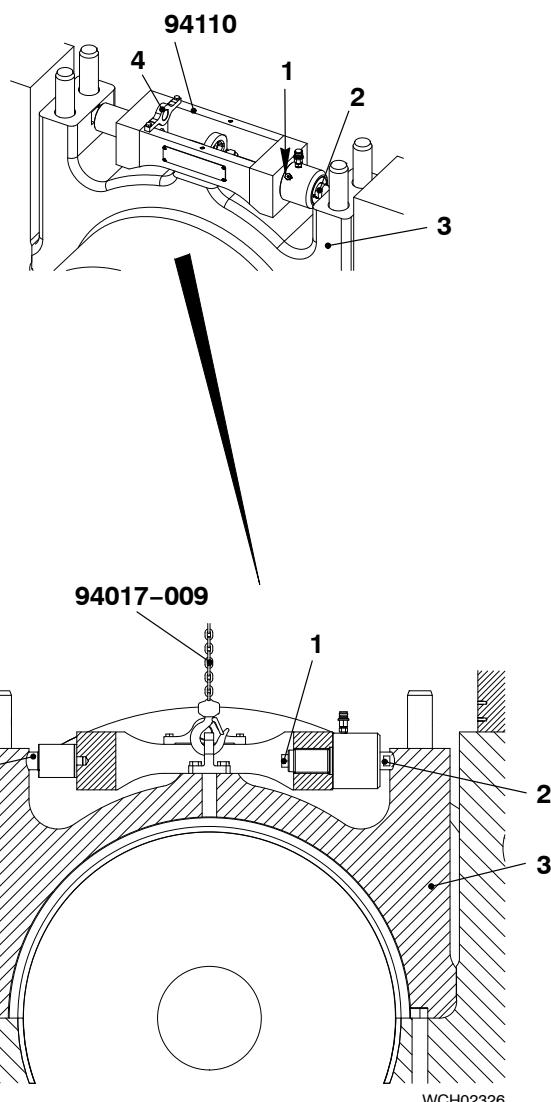

Fig. 5
- 14) Make sure that the thrust device (94110, Fig. 5) is clean.